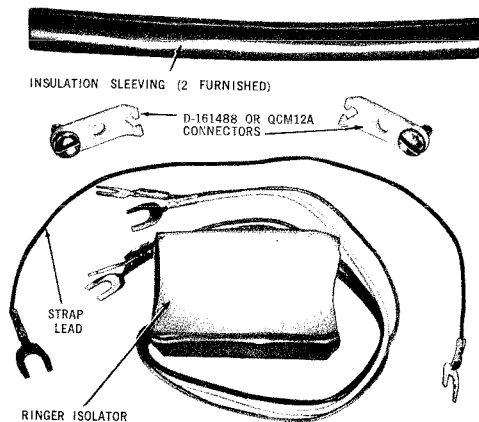
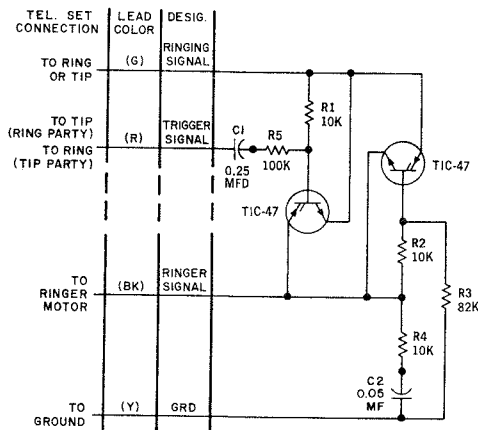

Fig. 1 — PO895087 Kit, Ringer Isolator—Components
Fig. 2 — Ringer Isolator — Schematic
**2.01** The ringer isolator must be ordered as a PO895087 Kit, Ringer Isolator which consists of the components shown in Fig. 1.
**2.02** The ringer isolator (Fig. 1) consists of a two-transistor switching circuit mounted on a printed circuit board and encased in a vinyl insulating sleeve. The ringer isolator schematic is shown in Fig. 2. For connections refer to section 500-112-100.